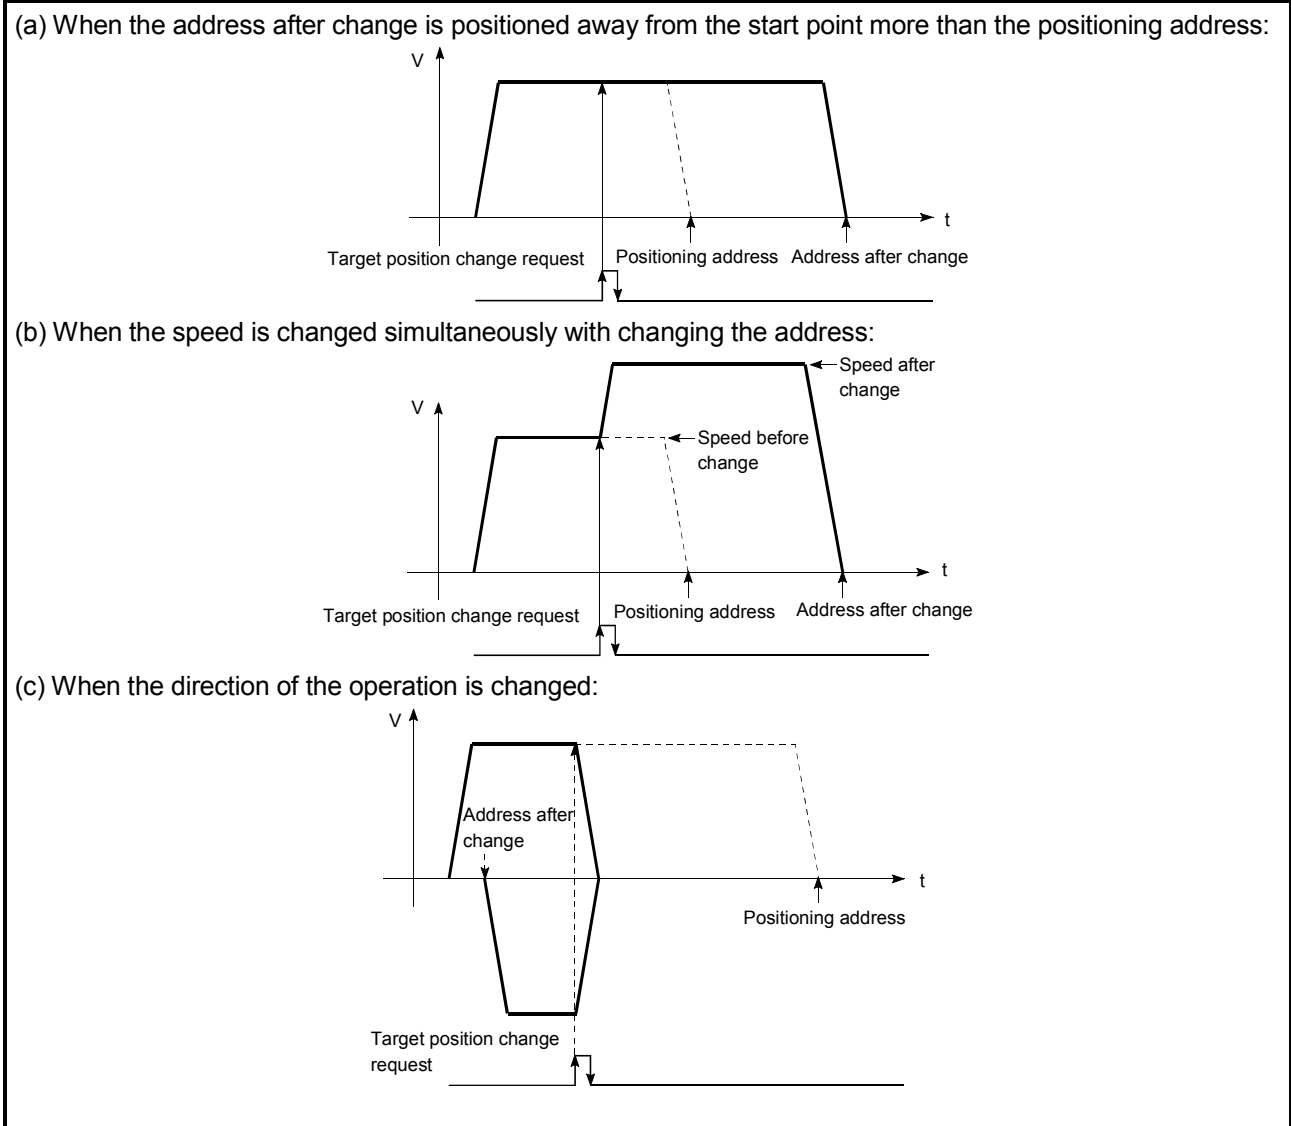

Fig. 13.31 Target position change operation
- (1) If the positioning movement direction from the stop position to a new target position is reversed, stop the operation once and then position to the new target position. (Refer to Fig. 13.31 (c).)
- (2) If a command speed exceeding the speed limit value is set to change the command speed, the warning "Speed limit value over" (warning code: 501) will occur and the new command speed will be the speed limit value. Also, if the command speed change disables the remaining distance to the target value from being assured, the warning "Insufficient remaining distance" will occur (warning code: 509).
- (3) In the following cases, a target position change request given is ignored and the warning "Target position change not possible" (warning code: 518) occurs.
- (4) When a command speed is changed, the current speed is also changed. When the next positioning speed uses the current speed in the continuous positioning, the next positioning operation is carried out at the new speed value. When the speed is set with the next positioning data, the speed becomes the current speed and the operation is carried out at the current speed.
- (5) When a target position change request is given during automatic deceleration in position control, positioning control to a new position is exercised after the axis has stopped once if the moving direction is reversed. If the moving direction is not reversed, the axis is accelerated to the command speed again and positioned to the new position.
- (6) If the constant speed status is regained or the output is reversed by a target position change made while "[Md.48] Deceleration start flag" is ON, the deceleration start flag remains ON. (For details, refer to Section 13.7.8.)